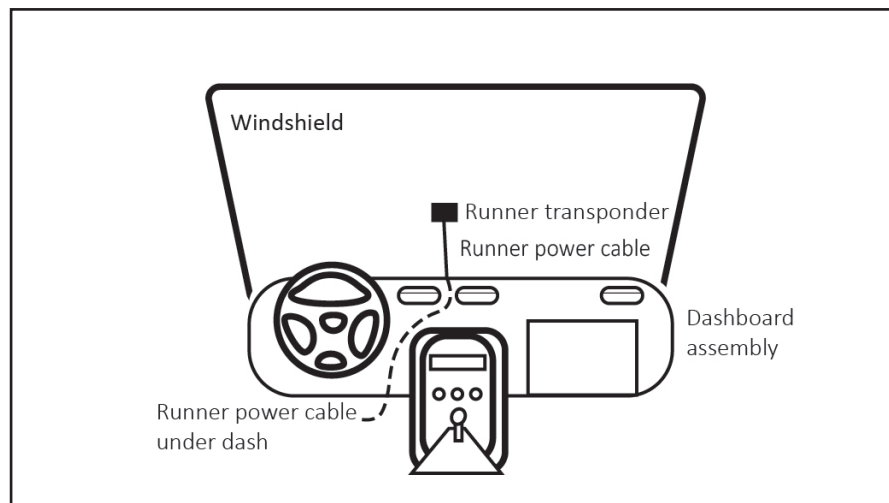

Figure 4 – Run power cable behind the dashboard assembly
1. Run the Runner power cable through the gap between the bottom of the windshield and the dashboard assembly (Figure 4).